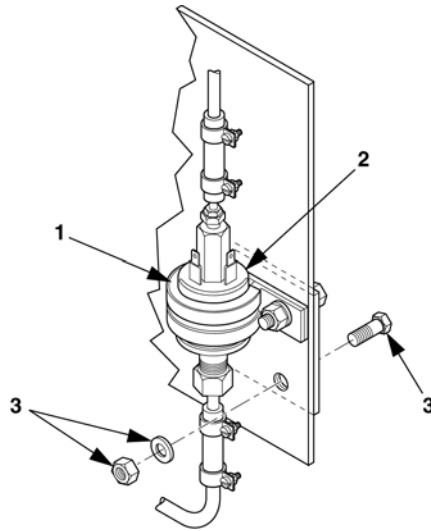

**Figure 5-4. Heater Assembly.**
14. Loosen the heater head retaining screw (1), Figure 5-4, part of (2), and rotate the glow plug assembly (3), until the right glow plug is above the coolant outlet (4), and tighten.
15. Loosen the heater holding clamp bracket (28), part of (2), and rotate the “black” heater shell bracket approximately 1 ½ inch space from the heater water pump. Do not retighten the clamp.
16. Install the heater (2), on the heater mounting plate, (5), using screws (6), flat washers (7), lock washers (8), and nuts (9).
17. Attach the heater air inlet flexible hose (25) to the heater water pump (26) using existing cable tie provided with heater, (2). Ensure the inlet hose (27) does not interfere with the heater mounting bracket.
18. Remove the hinges (21) and associated hardware from the generator set.
21. Install the wall mounting plate bracket (18), Figure 5-4, on the inside of the center bulkhead housing using screws (13), flat washers (14), and lock washers (15) into rivet nuts (19).
23. Install the top hinge (21), on the outside of the center bulkhead housing (24), using screws (23), flat washers (22), lock washers (17), and nuts (16), removed in procedure 18.
24. Install the heater/mounting plate assembly (5) to the wall mounting bracket (18), using screws (10), flat washers (11), and lock washers (12).